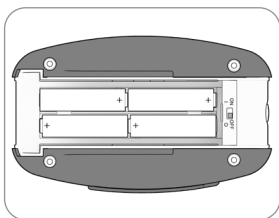

Fig. 3
3. Insert four (4) new “AA” alkaline batteries as pictured inside the battery compartment (Fig. 3). Take care not to damage battery contacts.